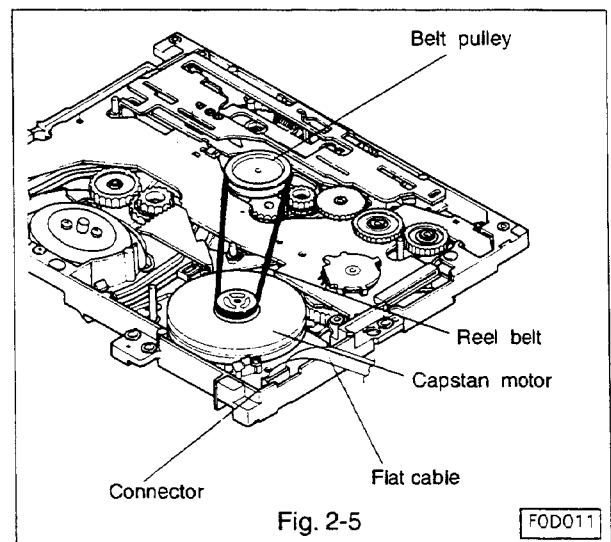

Fig. 2-5
2-5 Reel Belt(Refer to Fig. 2-5)
2-6-1 Removal(Refer to Fig. 2-5, 2-6)
- Remove the reel belt.(Refer to Fig. 2-5.)
When performing removal or installation of the capstan motor, take care that the outside of the rotor's rim is not greased.(Refer to Fig.2-5.) If greasy components are attached on the outside of the rotor's rim, wipe them off with a dry cloth because they may cause defects during special effects playback.
2-6-2 Installation(Refer to Fig. 2-5, 2-6.)